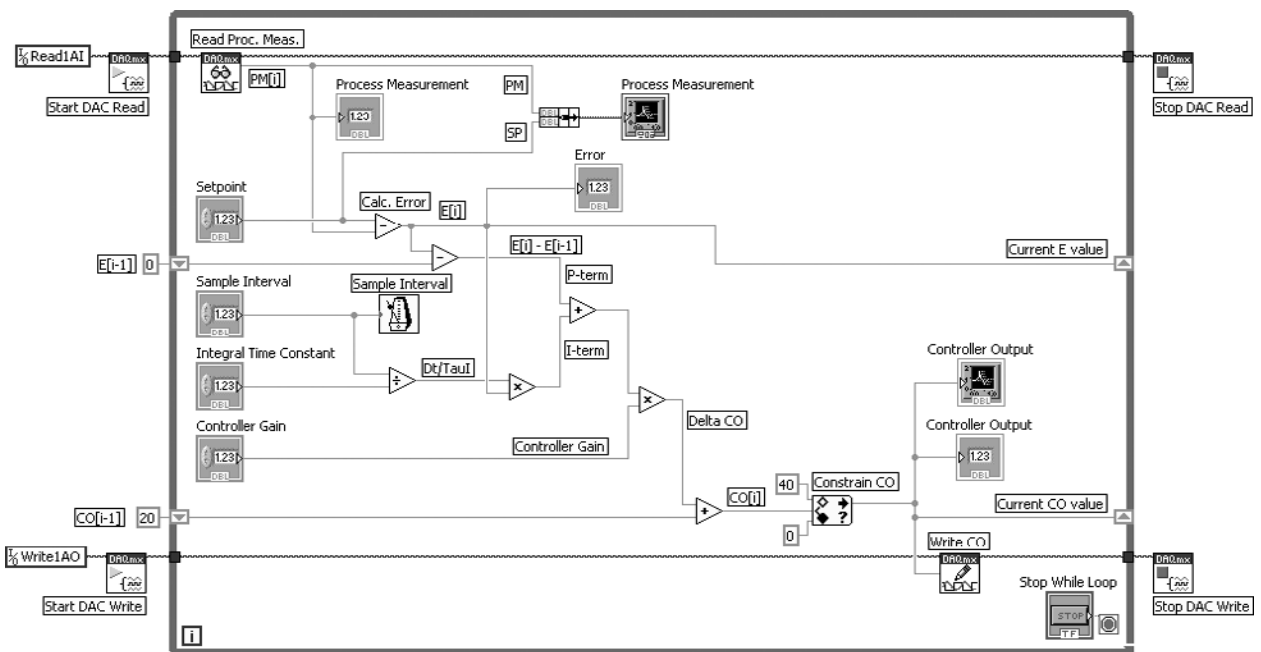
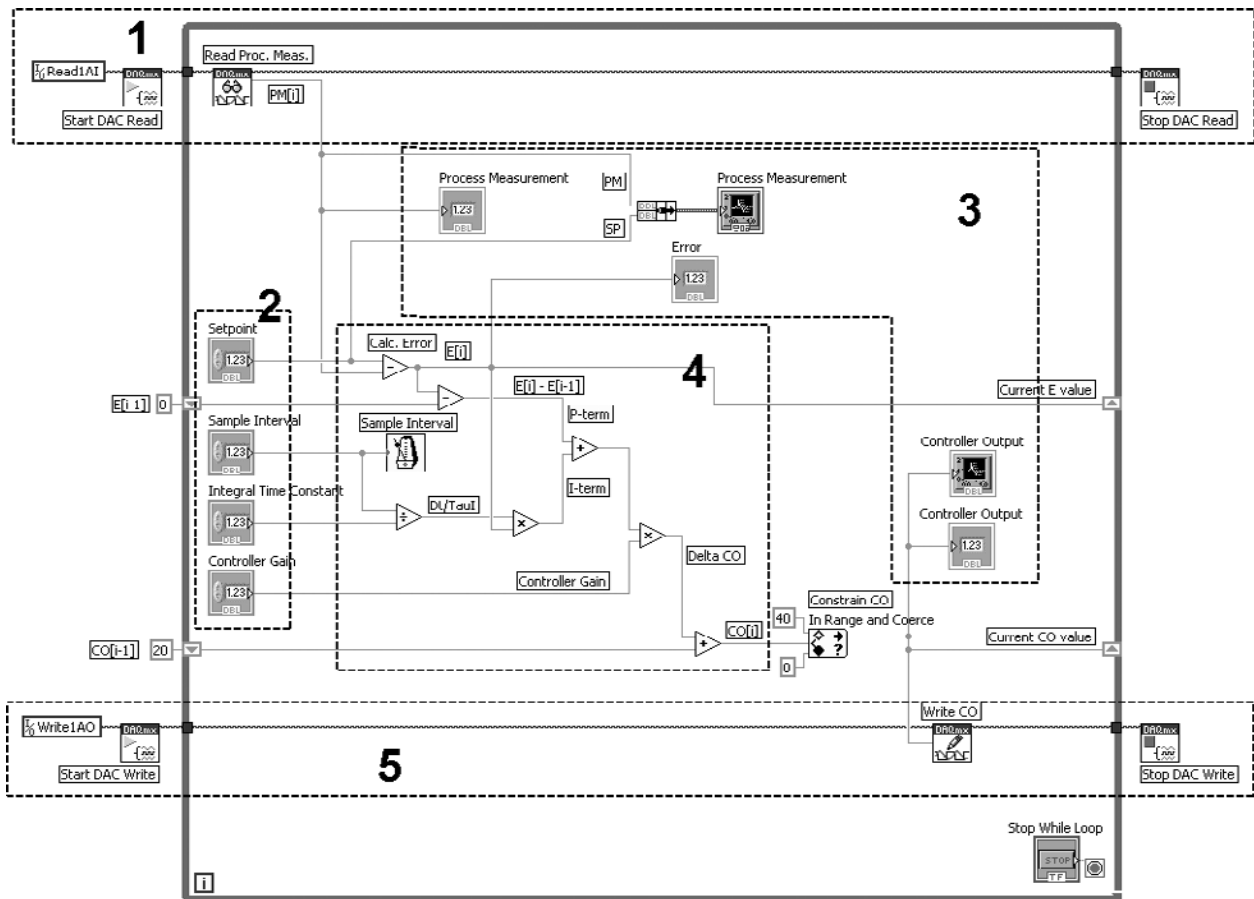

Figure 1.2
Figure 1.3
- *Block Diagram*—Holds the programming elements (called *blocks*, *functions*, or sometimes *subVIs*) that are wired together to build the graphical program. The block diagram for the PI Controller VI is shown in Figure 1.2.
This text is intended for students who are new to LabVIEW, so Figure 1.2 is presented as a preview only. For students who want to know a little more about how the LabVIEW program works, Figure 1.3 shows the major program sections in the PI Controller. (If you are not interested in the program details, you can skip ahead to Section 1.5.)